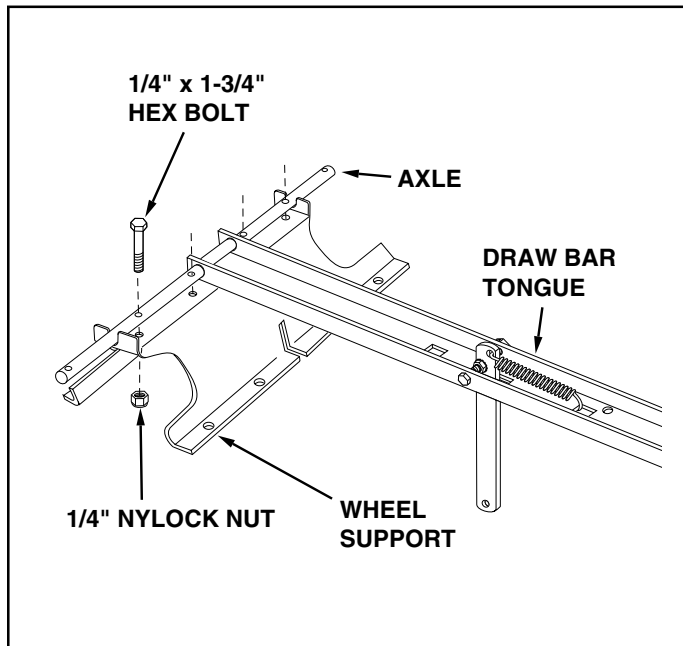

FIGURE 4
7. Assemble the axle and drawbar tongue to the wheel support, with the open side of tongue facing away from the wheel support. Fasten the axle to the wheel support using four 1/4" x 1-3/4" hex bolts and 1/4" nylock nuts. **Tighten.** See figure 4.